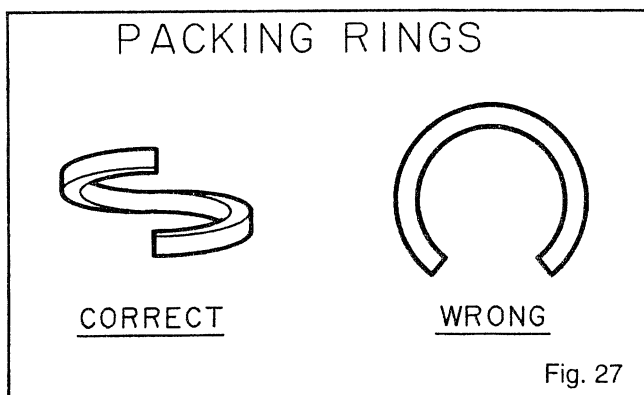

Fig. 27
2. Twist the packing just enough to get it around the shaft (Figs. 27, 28).